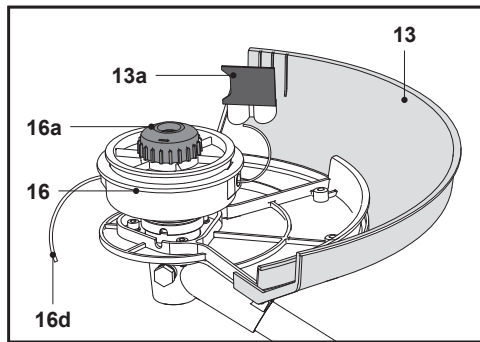

Fig. 25
1. Tap the bumper (16a) on solid ground and the trimmer head (16) will release the trimming lines (16d).
2. Excess lines will be cut by the knife (13a) (Fig. 25).